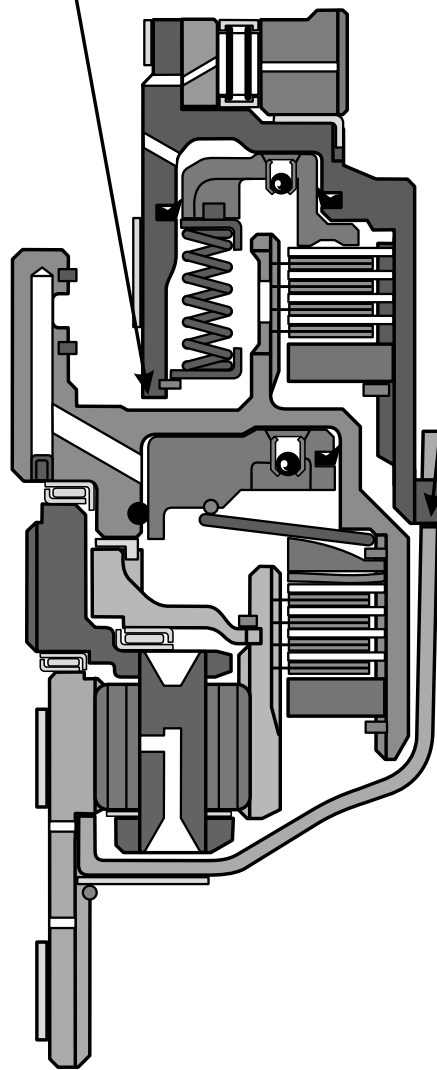

Figure 92
- (1) INPUT SUN SHELL - New design have "Tabs" added to the center of the sun shell slots, as shown in Figure 90, which now support the direct drum for the required clearance between the direct and forward clutch housings, and allows elimination of the number 8 thrust washer, as shown in Figure 92.
- (2) DIRECT CLUTCH HOUSING - Manufactured "Without" slots in the center hub, as they were no longer needed to accept the number 8 thrust washer tabs. Both design direct drums are illustrated in Figure 91, and cut-away in Figure 92.